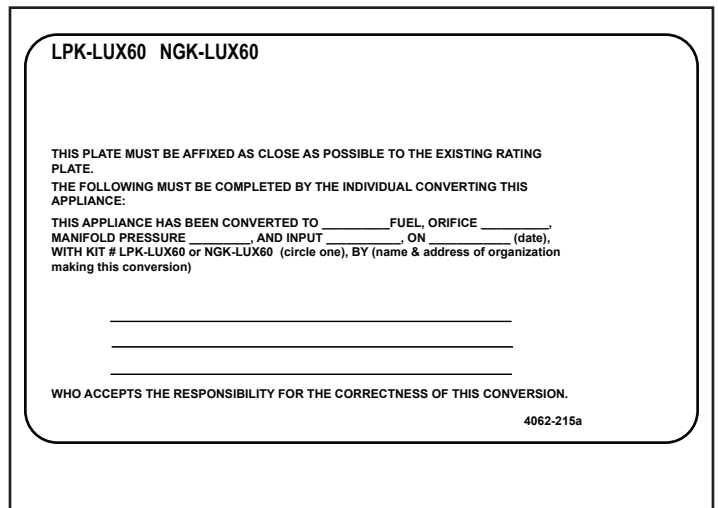

Figure 10 Identification Label
- Install identification label (Figure 10) near the valve.